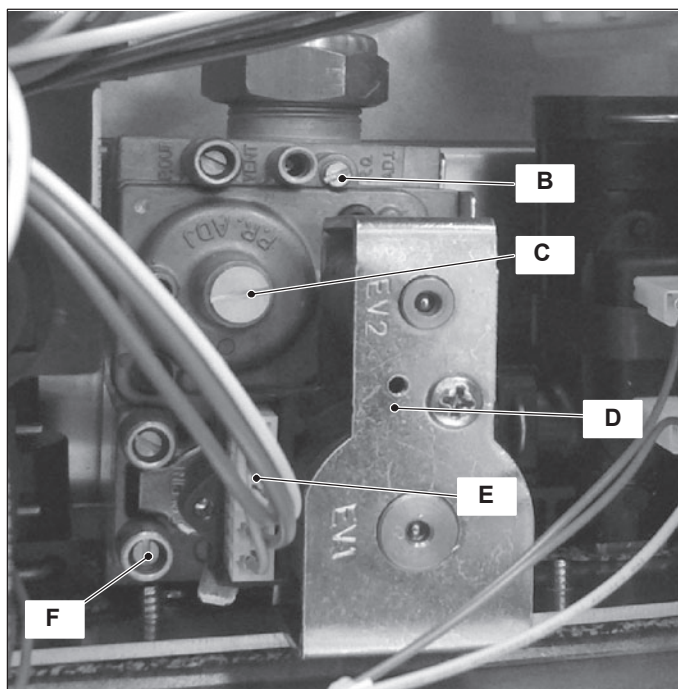

Figure 11.2
11.2 Description of the parts - (Figure 11.2)
- 3 Loosen the internal screw on the Inlet Pressure Test Point F (Figure 11.2) of the Gas valve and connect a pressure gauge using a suitable hose.
- 10 Disconnect the pressure gauge and close the Inlet Pressure Test Point F (Figure 11.2).
it and rotate the Allen key screw $\varnothing$ 4 mm (C - Figure 11.2) (by rotating it clockwise the CO₂ % increases).
To adjust the CO₂ % value rotate screw (B - Figure 11.2) (by rotating it clockwise the CO₂ % decreases).
27 After adjustment fit the protective brass plug (C - Figure 11.2).
- 2 Disconnect the electrical connector E (Figure 11.2).